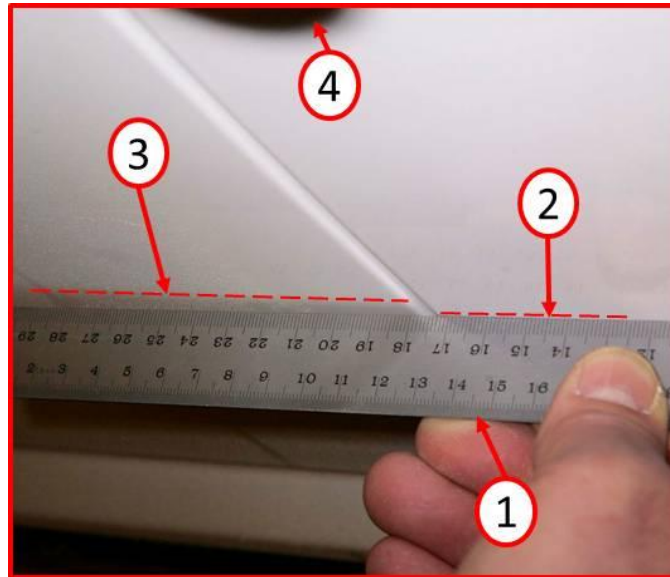

Fig. 2 Check Flushness
3. Fully close the suspect door(s) and carefully check front to rear door flushness using a straight edge/rule (1) across the front door (2) and rear door (3) surfaces near the latch level (Fig. 2).